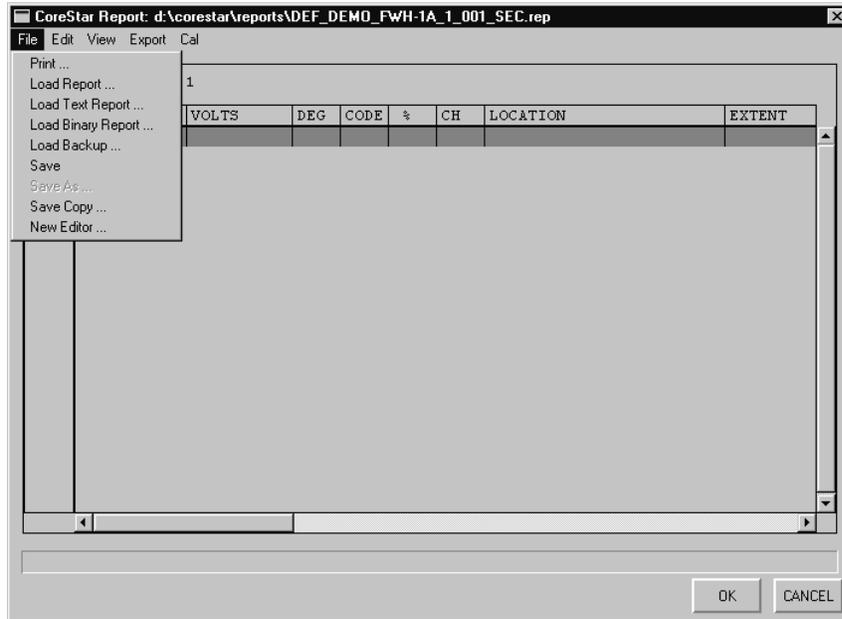

Figure 3-56. File Menu on Report Editor Dialog
Figure 3-56 shows the contents of the **REPORT > File** menu. Each selection on this menu is discussed below.
- **REPORT > File > Save As ...:** As shown in Figure 3-56, **Save As ...** on the **File** menu is normally *grayed-out* and not selectable for the present eddy current report. This is intentional in order to avoid the report file name being changed to another naming format that the software will not recognize. The **Save As ...** function is enabled when setting up the report header, footer, probe change, shift change, etc. macros (*see **REPORT > Edit > Macros ...** later in this section*).